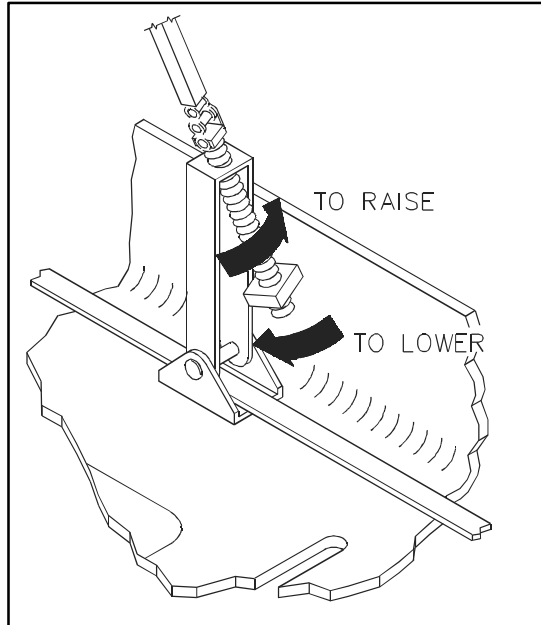

FIGURE 2-17: PLATFORM SUPPORT CHAIN ADJUSTMENT
- b. Refer to **Figure 2-17**. Using control pendant, position lift DOWN to slightly above ground level.